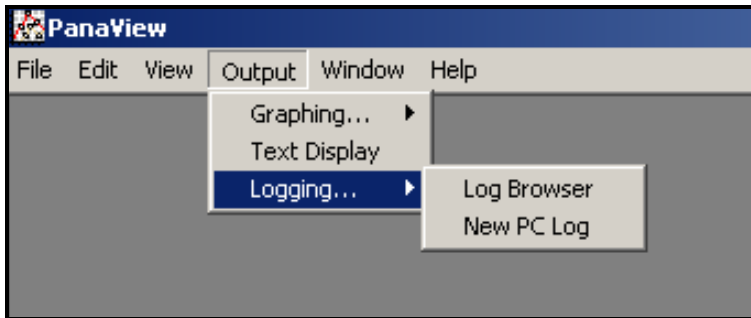
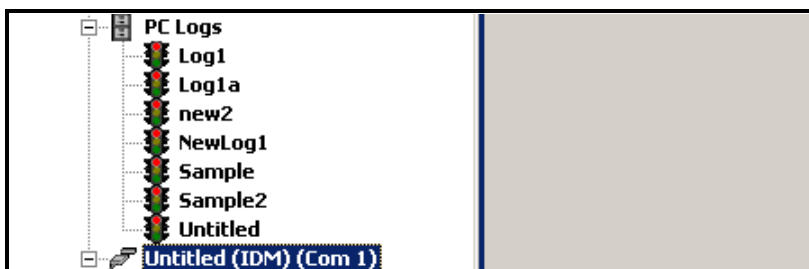
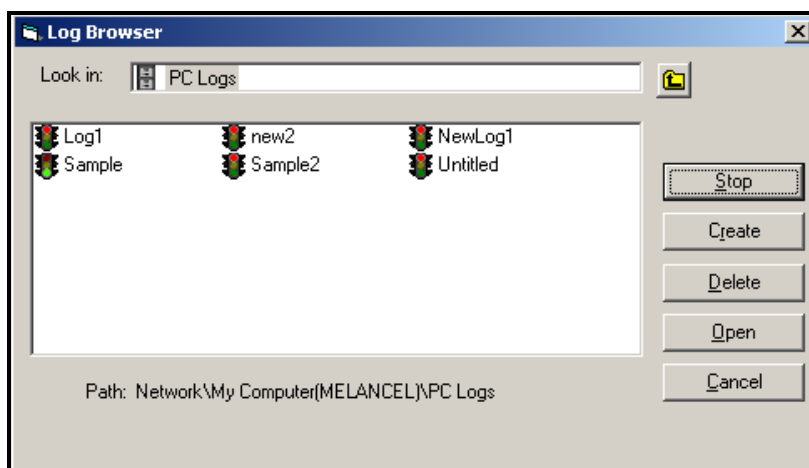

Figure 13: Selections in the Logging Option
Figure 22: The Expanded PC Logs Option
Figure 23: Selecting a Log File from the Log Browser
1. Open the *Output* menu (see Figure 13), and click on the *Logging* option.
- From the *New Meter Browser* in PanaView, expand the network tree and click on the *PC Logs* option. If you have created one or more logs, the tree will appear similar to Figure 22. Double-click on the log name to open the log, or
- Pull down the *Output* menu (see Figure 13 on page 6), and click on the *Log Browser* option. Advance to the *PC Logs* dialog box as described in previous sections. A screen similar to that shown in Figure 23 appears.
Notice that each of the log files in Figure 22 and Figure 23 has a traffic light icon next to its name. These icons indicate the current status of the log as follows: